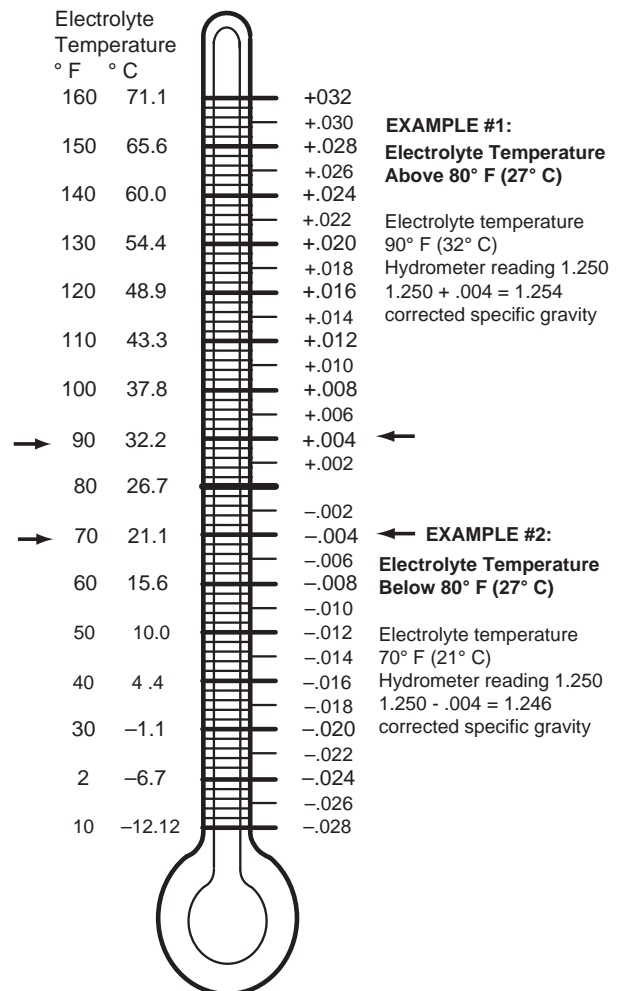

Fig. 28 Hydrometer Temperature Correction
4. Add or subtract four points (.004) to the reading for every 10° F (6°C) the electrolyte temperature is above or below 80° F (27° C). Adjust the reading to conform with the electrolyte temperature, e.g., if the reading indicates a specific gravity of 1.250 and the electrolyte temperature is 90° F (32° C), **add** four points (.004) to the 1.250 which gives a corrected reading of 1.254. Similarly if the temperature was 70° F (21° C), **subtract** four points (.004) from the 1.250 to give a corrected reading of 1.246 (Ref Fig. 28 on page 23).